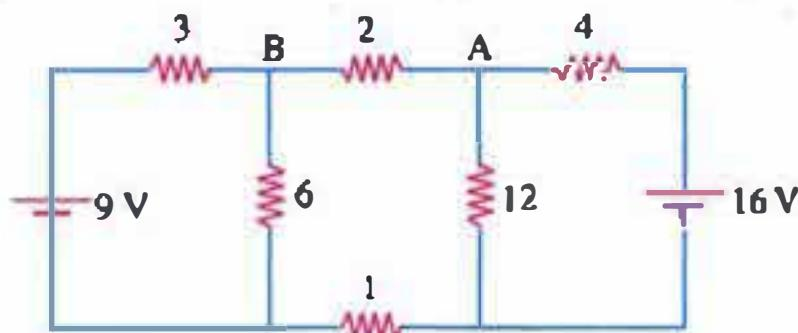

Fig. 4.27
4. In the circuit of Fig. 4.27, use Thevenin's theorem to find the magnitude and direction of flow of current through  $2\text{ }\Omega$  resistor. [0.75 A from A to B]